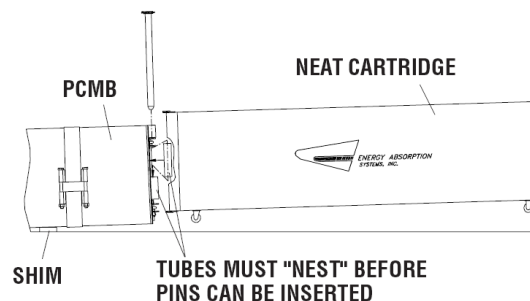

Figure 7
Step 5: Cartridge/Backup to Support Structure Attachment (See Figure 7)